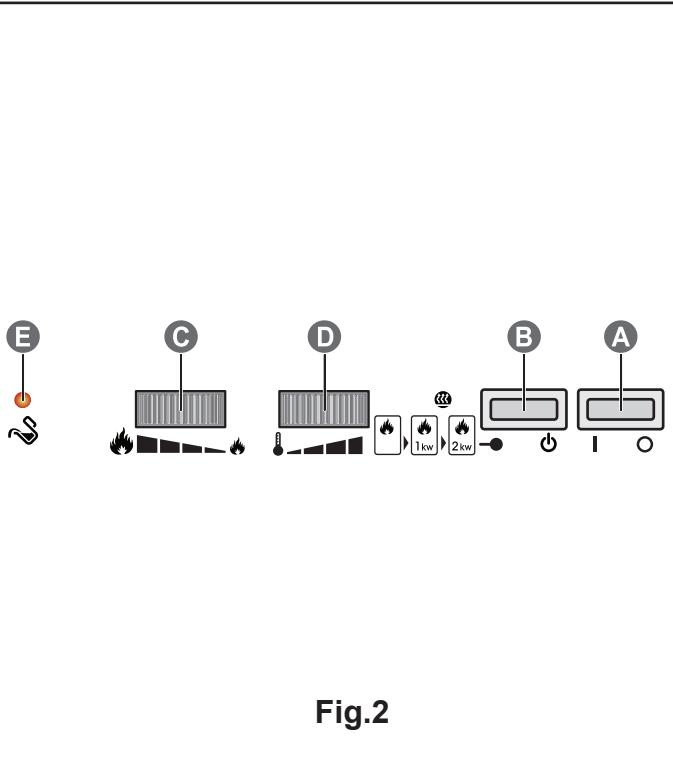

Fig.2
The stove Manual controls are located behind the doors. (See Fig.2 for Manual Control lay out)
To set the temperature you require, turn the thermostat control knob 'D' (See Fig.2) to the right until the desired temperature is reached. Alternatively to heat a cold room quickly, turn the thermostat control knob 'D' (See fig.2) up fully. When the room has reached the desired temperature, turn the thermostat control knob 'D' (See Fig.2) to the left until the desired heat setting is achieved.
On the control panel, Switch A (see Fig.2) must be in the 'ON' (I) position in order for the remote control to operate. There are 3 buttons on the remote control. (See Fig.7) To operate correctly the remote must be pointed towards the front fuel effect.